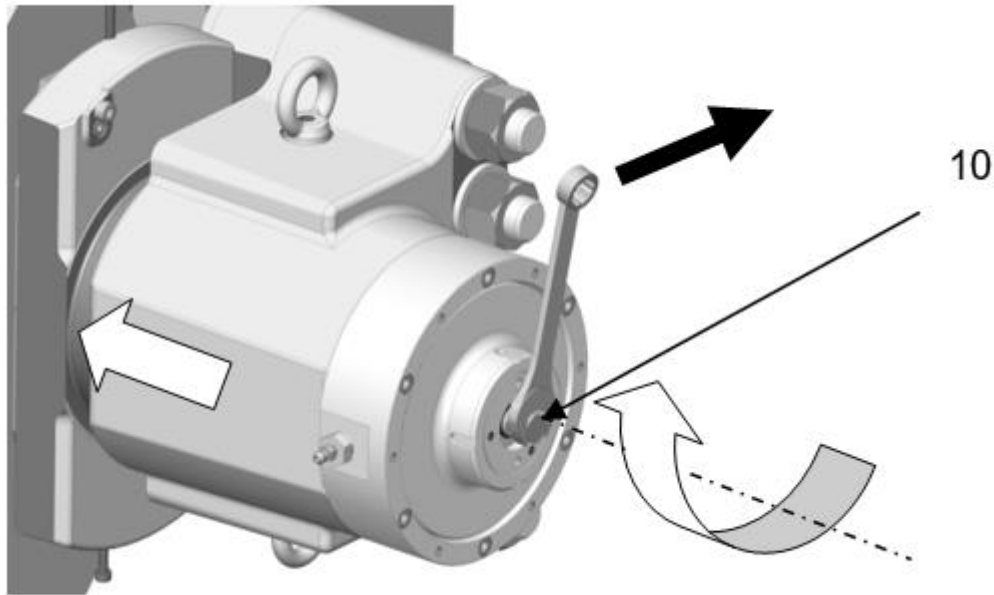

Fig. 5.4
5. Turn the shaft **10** with a 15 A/F wrench clockwise to move the jaw up to the clearance free gap indicated on the datasheet or plate Fig. 5.4.